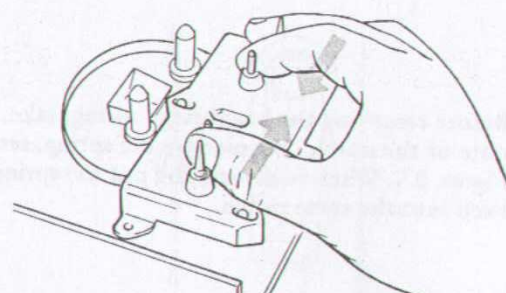

Fig. 3.10 Removing the flywheel mounting plate
- Hold the flywheel plate as shown in Figure 3.10 exerting pressure sideways with the fingers and thumb so that the flywheels do not drop out of their bearings.